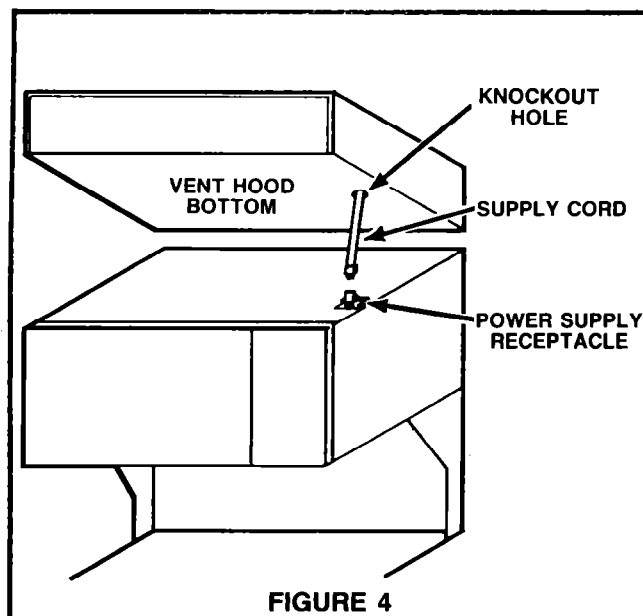

FIGURE 4
1. With a screwdriver and a pair of pliers, remove knockout from underside of unit. See Figure 4.
5. Lift front edge enough to connect hood power supply cord to receptacle in top of range. Figure 4.